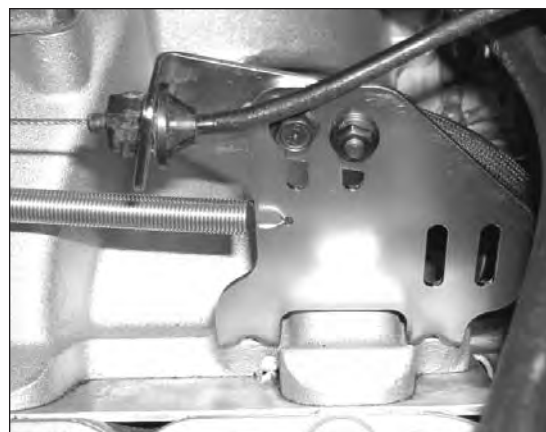

Figure 2 - Throttle Cable Bracket
4. (Does not apply to #28097 or #28457) Select the appropriate cable brackets for your application (large or small opening brackets) and attach them to the GEN III throttle bracket base with the appropriate number of 6mm x 1.0 x 12mm serrated flange hex bolts. (**Note:** In our retrofit of the LS1 into a 1974 Camaro, using a TH400R automatic transmission, we only needed one of the small opening cable brackets for the throttle cable, since a kickdown cable is not used. See **Figure 2** for example.)